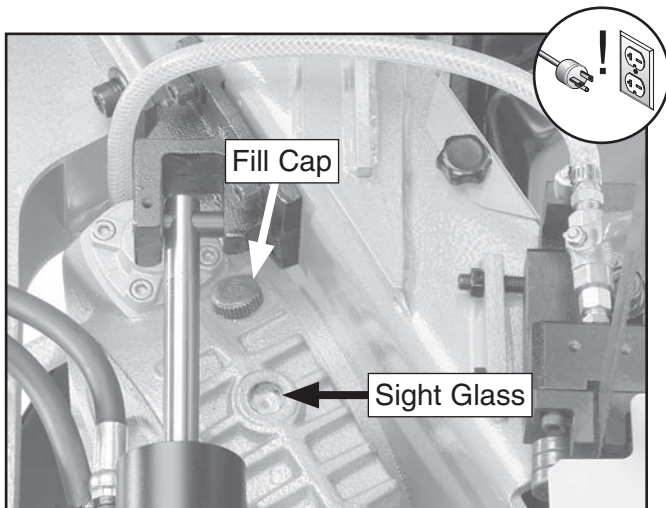

Figure 76. Location of gearbox sight glass and fill cap.
4. Remove fill cap (see **Figure 76**).
7. Lower headstock all the way, then fill gearbox at fill cap hole until sight glass is about half-way full (see **Figure 76**).